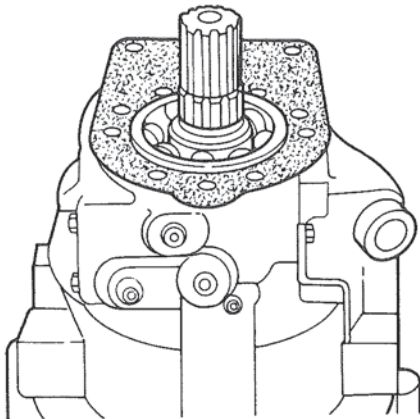

Figure 18. Assembling Gasket, Checking Oil Passage.
1. Assemble the reduction unit adapter gasket, and align gasket holes with matching case holes. Figure 18.